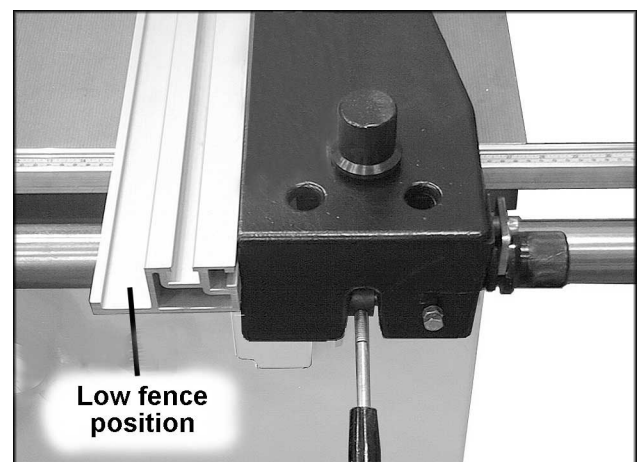

FIGURE 32
1. Loosen the aluminum fence lock, slide the fence off and slide it back on in the low position, as shown in Figure 32.